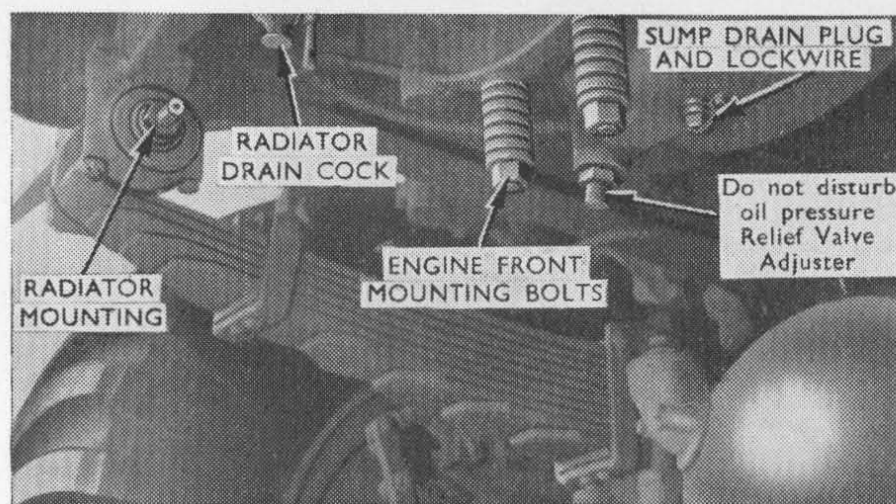

Fig. 15. Engine Front Mounting.
The two spring loaded bolts under the front crossmember should not be dead tight but should have allowance for movement of the engine against the springs (*see Fig. 15*).
- (e) Sump drain plugs. See also that lockwire is secure. (Figs. 15 and 16).
Do not disturb the oil pressure relief valve adjuster (Fig. 15).
- (i) Radiator mounting and tie rod. The radiator is carried on rubber blocks mounted on extensions of the pins through the front dumb irons (*Fig. 15*). The tie rod runs from the rear of the top tank to the rear of the driver's cab.